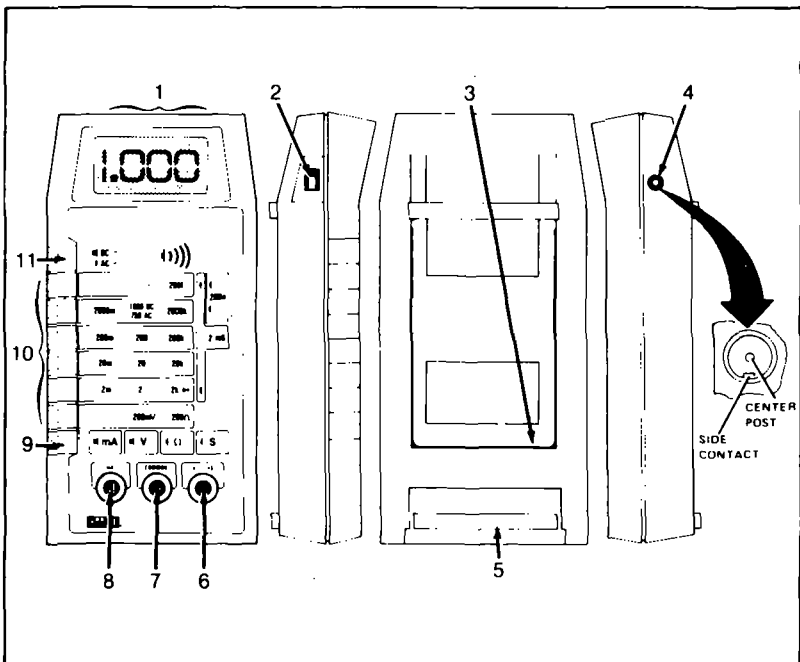

Figure 1-3. Controls, Indicators and Connectors
1-10. Before using your 8026B we suggest that you take a few minutes to get acquainted with your instrument. All of the externally accessible physical features of the 8026B are shown in Figure 1-3 and described in Table 1-1. Locate each feature on your 8026B as you read the description.
6. Look inside of the battery eliminator connector on the right side of the 8026B and locate the connector contacts (center post and side contact as shown in Figure 1-3).